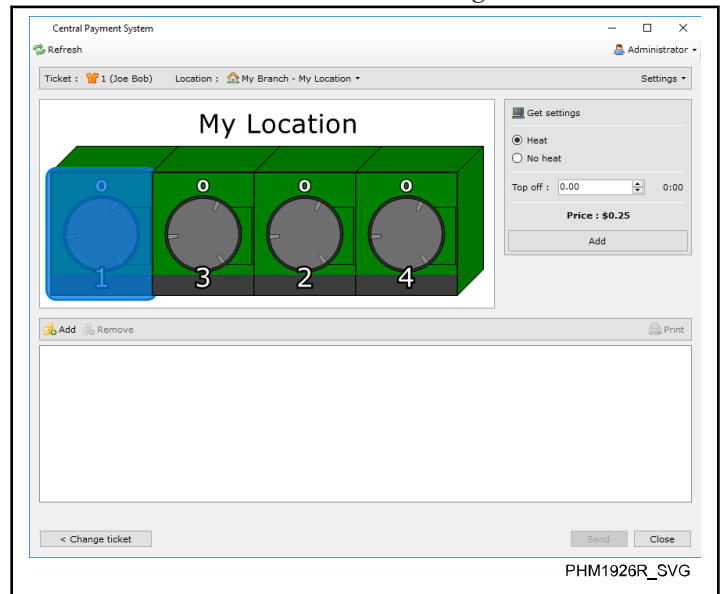

Figure 99
3. Click the **Add Vend** button. Refer to *Figure 99*.